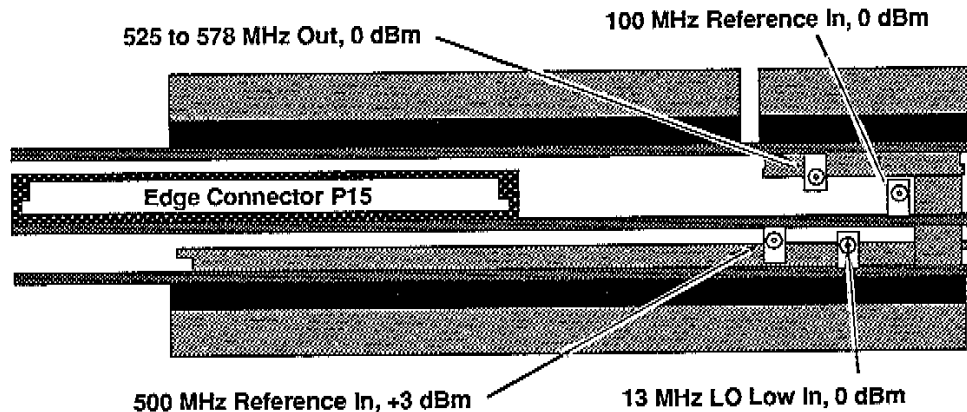

Figure 4-7. A31 565 MHz Synthesized module connector locations.
- Connect a test spectrum analyzer to the 565 MHz output (Figure 4-7). Set the 565 MHz CENTER FREQUENCY, 5 MHz SPAN/DIV, and 0 dBm REF Level.